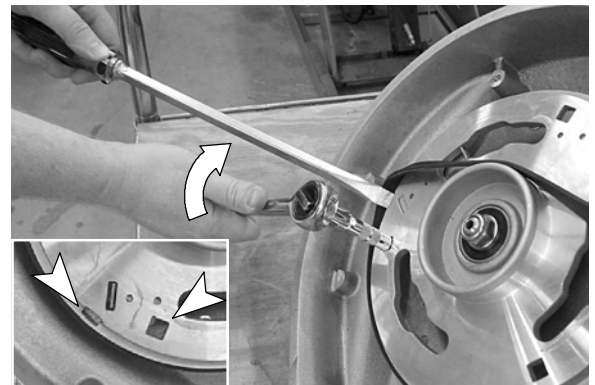

FIG. 70
6. To install belt, use a socket driver ratchet with an extension and a large flathead screwdriver as shown. The hub driver is equipped with tool slots (Figure 70).